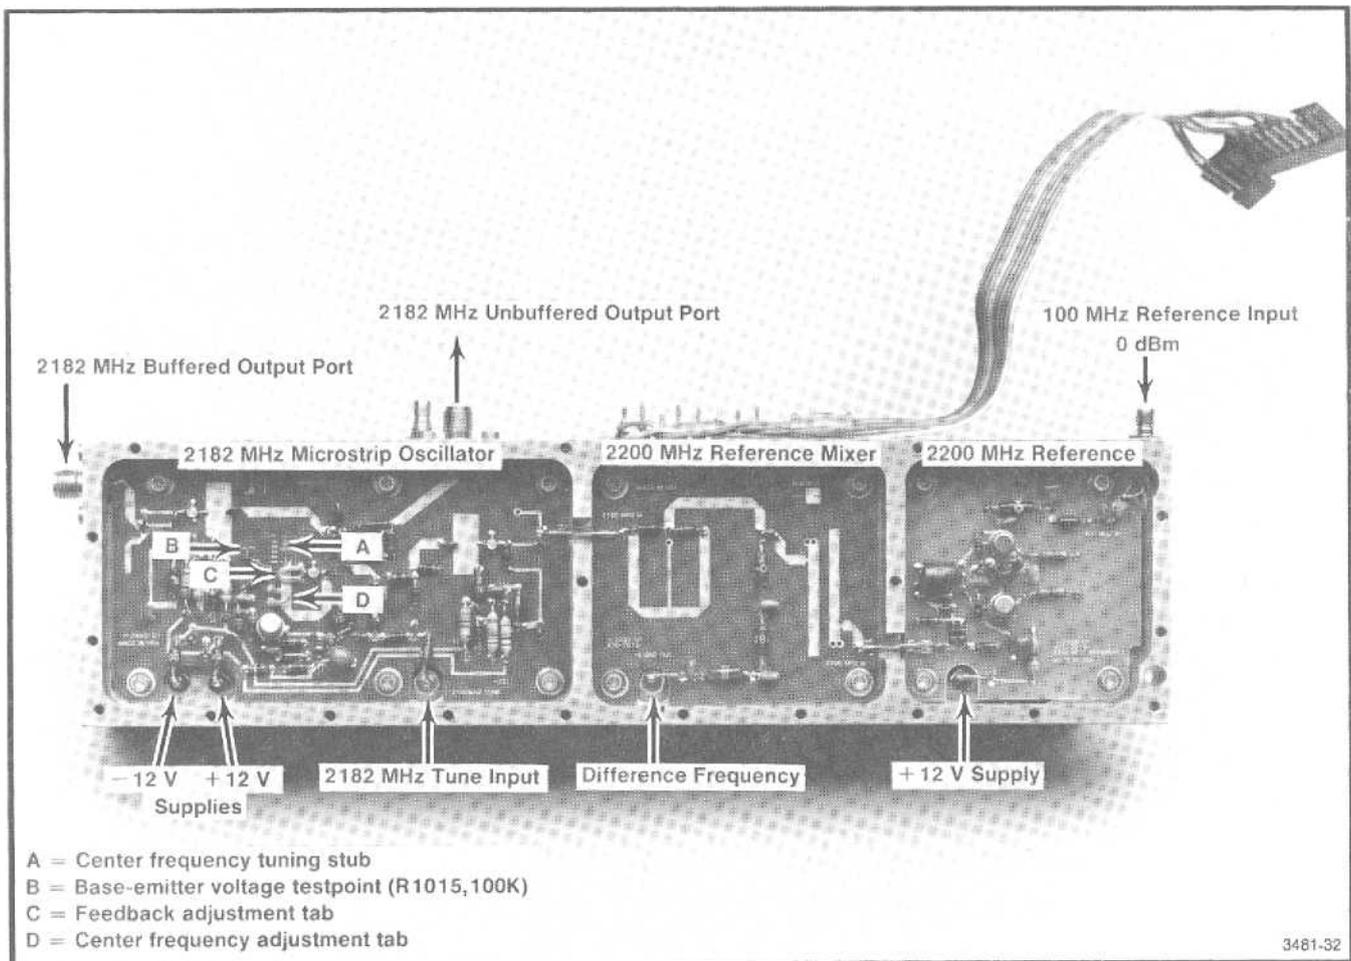

Fig. 4-14. Adjustments and test point locations within the oscillator section.
d. Refer to Fig. 4-14. Connect a 50 termination to the 2182 MHz buffered output port. Set the variable supply to 0 volts. Connect the + terminal of the supply to the 2nd LO housing; connect the - terminal to the exposed end of C2203 and L2031 through a 1 k Ω resistor. Connect the 100 MHz 0 dBm signal from the signal generator to the 100 MHz Reference Input port. Set the signal generator within ± 20 kHz of 100 MHz.
f. Turn on the 496/496P. Refer to Fig. 4-14 for component locations on the 2182 MHz Microstrip Oscillator board. Bend tabs C and D (the feedback and frequency adjusting tabs) over the resonator so they are angled